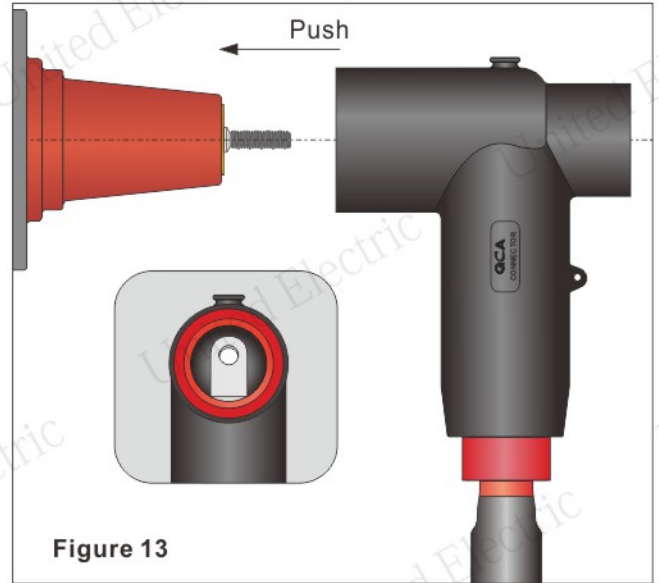

Figure 13
- Align the eye of the cable lug with the threaded stud and push the screened connector CJBF30-1250 onto the bushing. (Figure 13)